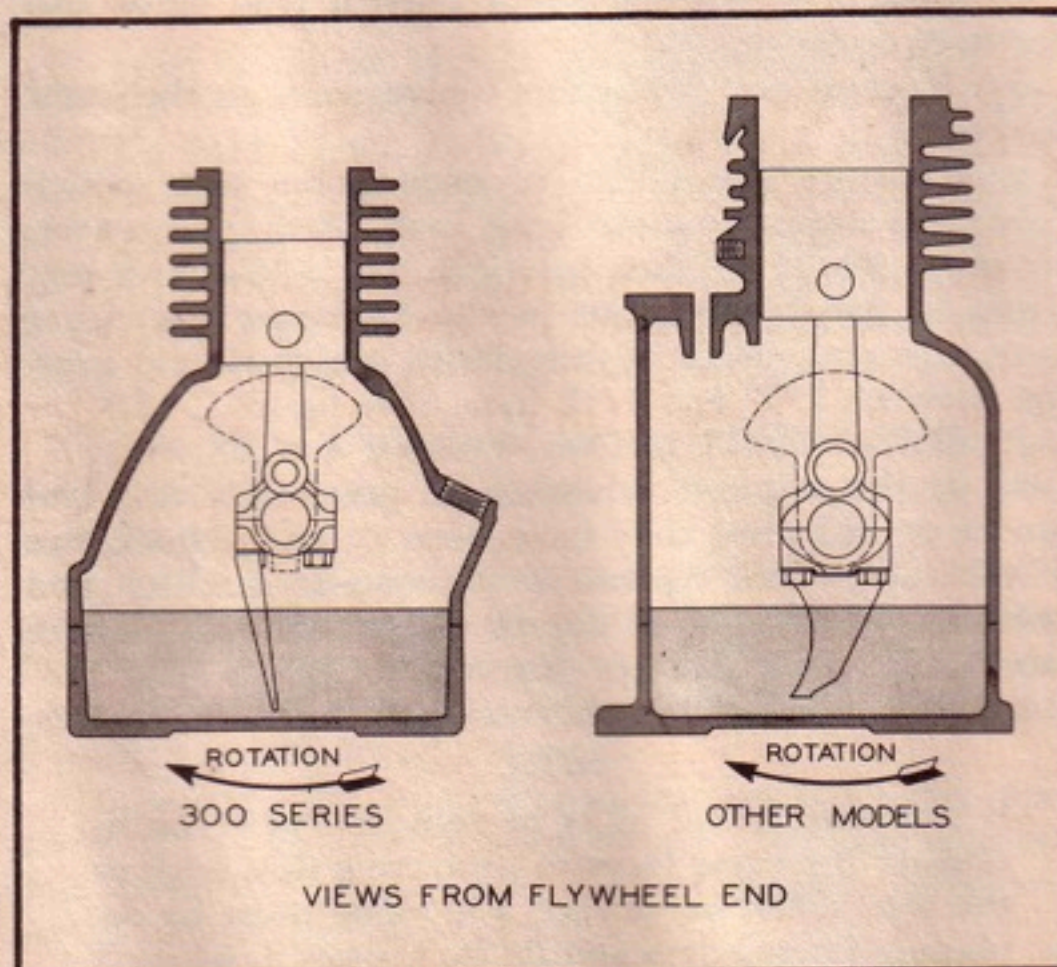

Figure C-20. Correct Position of Splash Fingers
17. Coat the connecting rod bearing cap with oil, and install the cap (with protrusions matched). The oil splash finger is attached to these screws in all horizontal shaft engines. Refer to figure C-20 for the proper position of the oil splash finger.